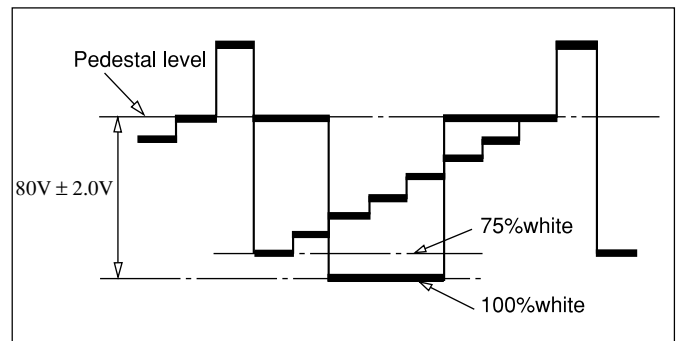

Fig. 3-2
- 2. Using the volume keys on the jig remote controller, adjust the voltage between pedestal level and 100% white to $80V \pm 2.0V$ as shown in the Fig 3-2.